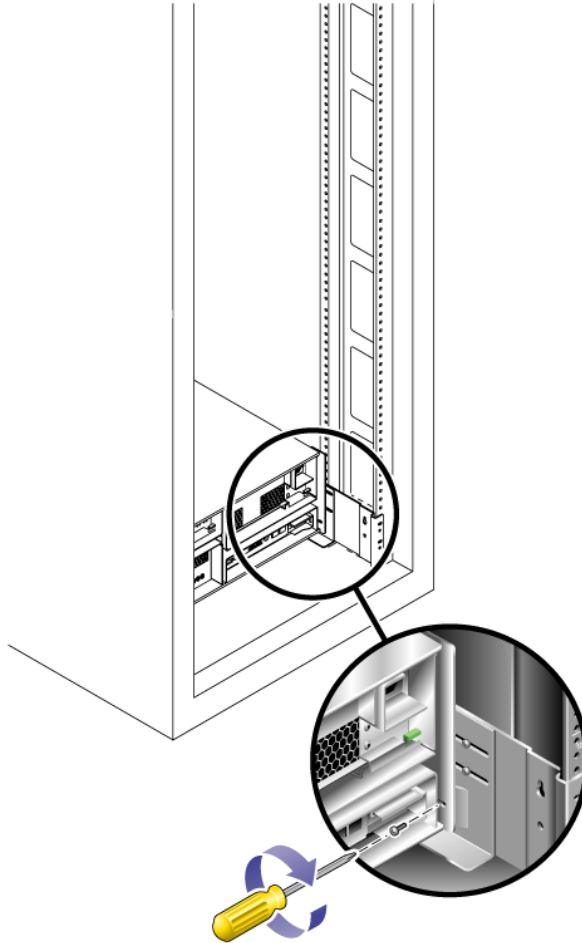

FIGURE 2-10 Securing the Unit to the Back of the Cabinet Rail
4. Install and tighten two 6-32 screws (one per side) at the back of the tray, to secure the back of the tray to the cabinet (FIGURE 2-10).